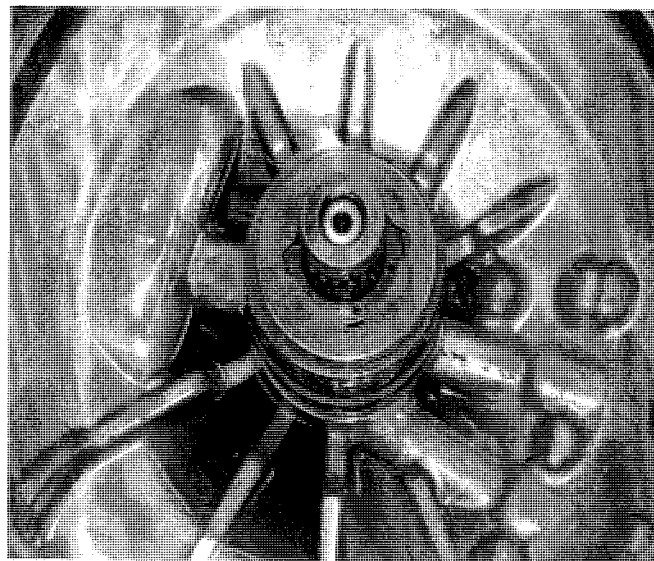

Fig. 12 Thrust Bearing Properly Installed
38. Verify the #8 Needle Thrust Bearing is properly oriented on the Oil Feed Bushing in the bottom of the case. See (Fig. 12).